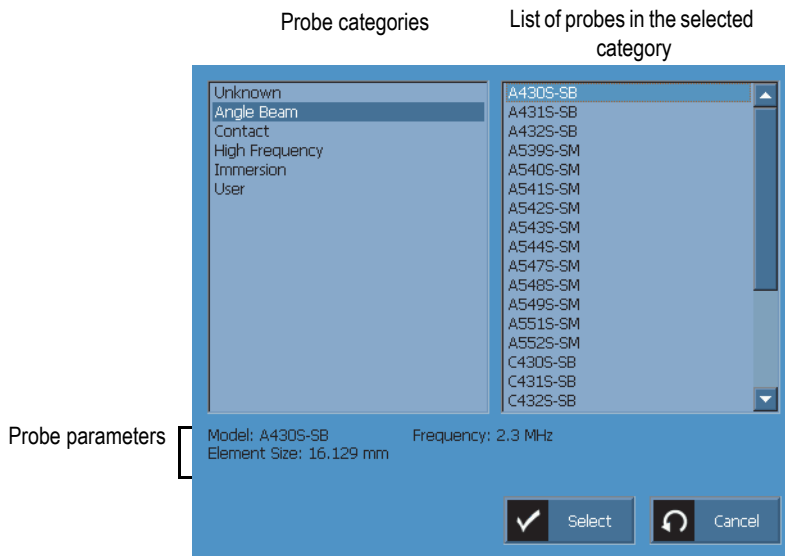

Figure 4-2 The probe selection dialog box
3. Select **Probe** to choose your probe from the predefined list (see Figure 4-2 on page 94):